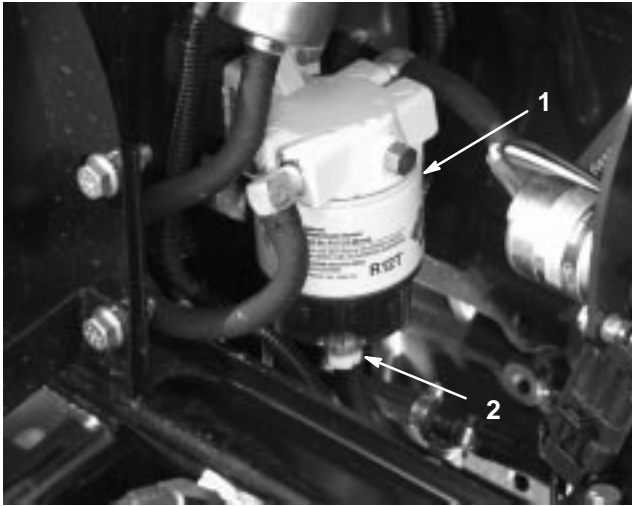

Figure 50
Drain water or other contaminants from the water separator (Fig. 50) daily.
2. Loosen the drain plug on the bottom of the filter canister (Fig. 50). Tighten the plug after draining.